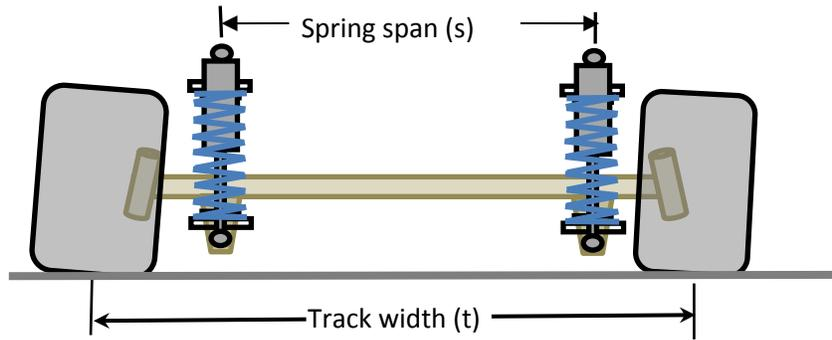

Figure 1: Solid axle suspension with track width (t) and spring spacing (s)
The formula for determining roll stiffness from the front suspension shown in Figure 1 above, with equal springs in the front is as shown in Equation 1. If for example the car is set up with a pair of 500 lb/in springs (K) and has a spring span (s) at the chassis of 48 inches the roll stiffness (RS_f) is as shown below.